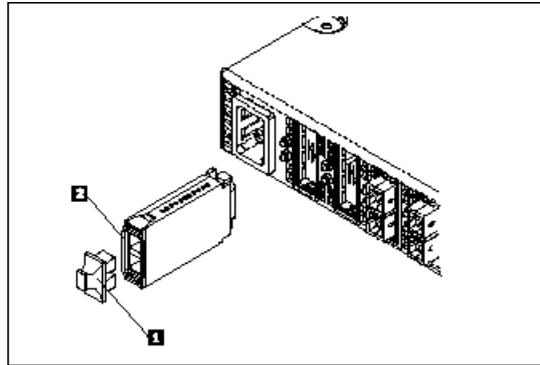

Figure 101. Insert GBIC
1. Remove the plastic cover (1) from the GBIC (2). This is shown in Figure 101.